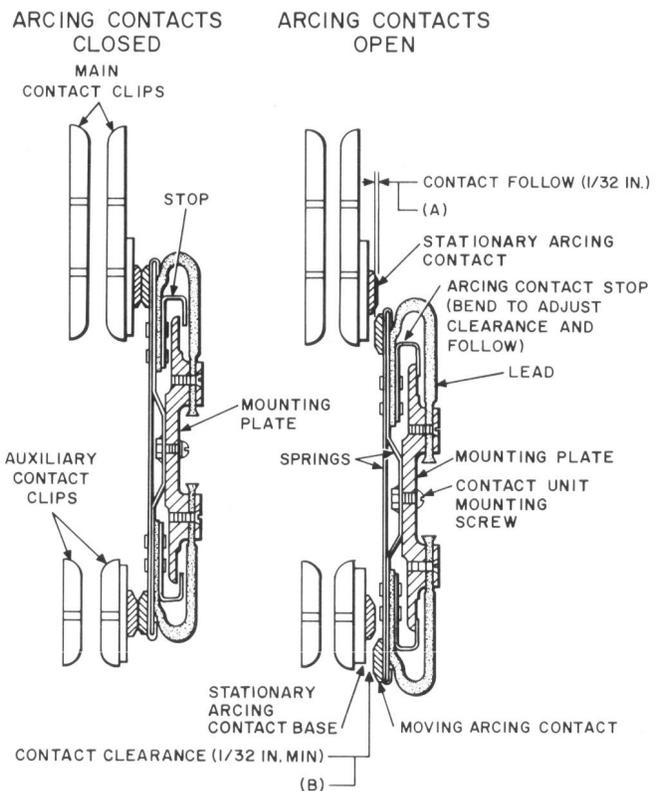
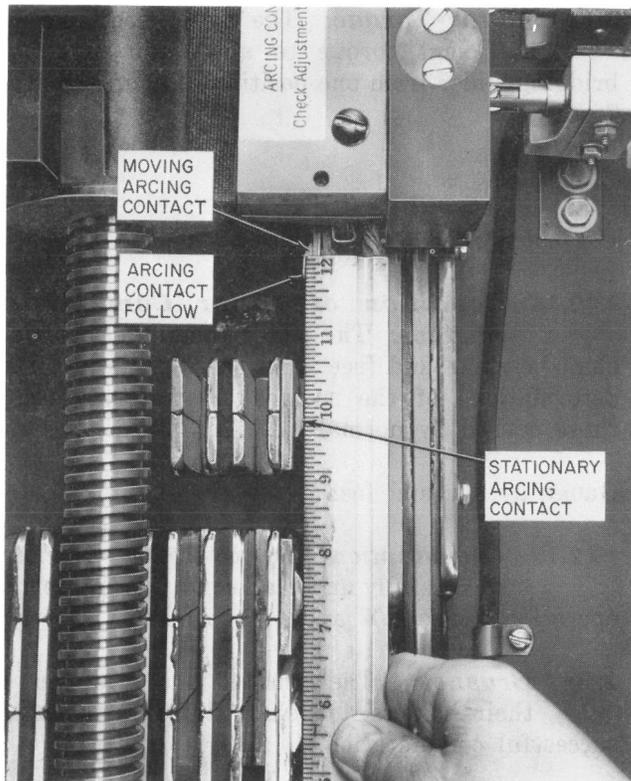
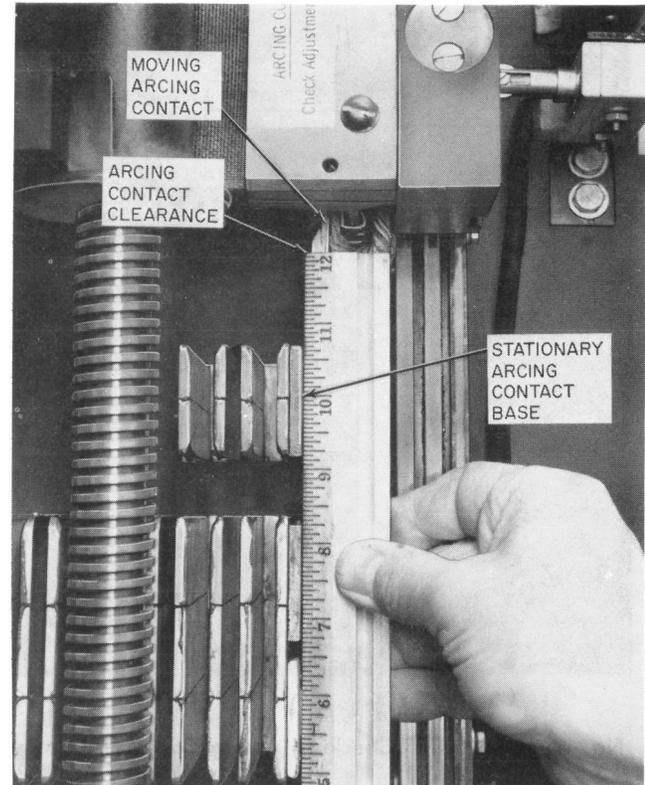

Fig. 3—Moving and Stationary Arcing Contacts
Fig. 4—Method of Measuring Arcing Contact Follow
Fig. 5—Method of Measuring Arcing Contact Clearance
**2.07 Arcing Contact Follow:** Fig. 3 and 4—The follow of the moving arcing contacts shall be 1/32 inch. Measure, as shown in Fig. 4, using insulated straight edge.
**\*\*2.08 Arcing Contact Clearance:** Fig. 3 and 5—The clearance between the moving arcing contacts and the base of the stationary arcing contacts when the contacts are open shall be minimum 1/16 ±1/32 inch. Measure, as shown in Fig. 5, using insulated straight edge.